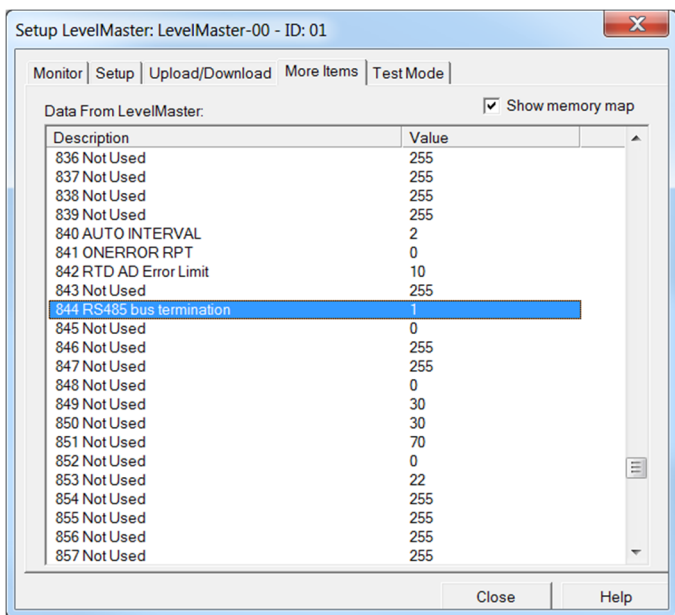

Figure 11: RS485 termination for the last sensor
8. Verify that the RS485 termination address is now set to 1 (Figure 11).